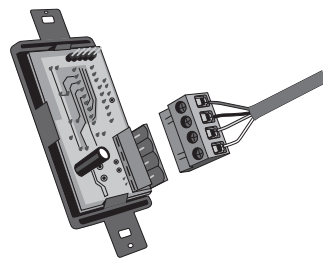

figure 13
4. Insert the connector to the electronic module and ensure it holds in place (**figure 13**).